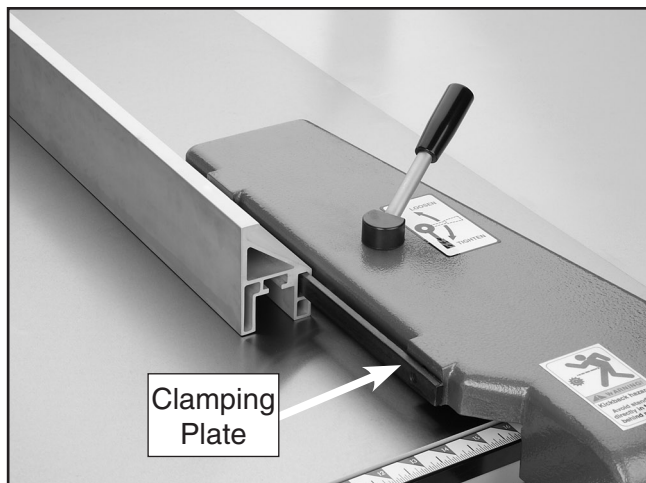

Figure 29. Installing the rip fence.
8. Slide the aluminum rip fence onto the clamping plate as shown in **Figure 29** and lock it with the handle on top of the rip fence body.